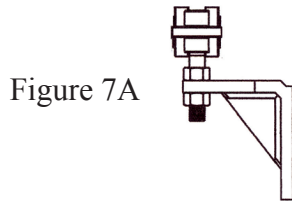
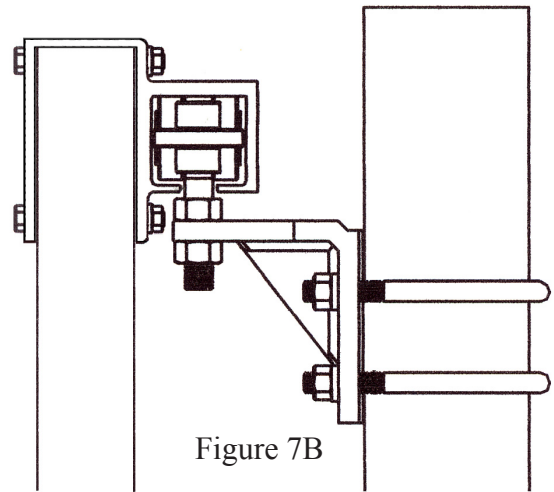

Figure 7A
Figure 7B
9. Un-package the truck assembly hardware kits (TGKOD). Install truck assemblies onto truck brackets as shown in Figure 7A, leaving 1" of thread above bracket. Install truck assembly brackets on gateposts facing the public side of the gate, utilizing u-bolts provided, aligning them so that gate will hang level horizontally, with bottom of gate no more than 4" above grade. Tighten truck assembly brackets nuts See Figure 7B.